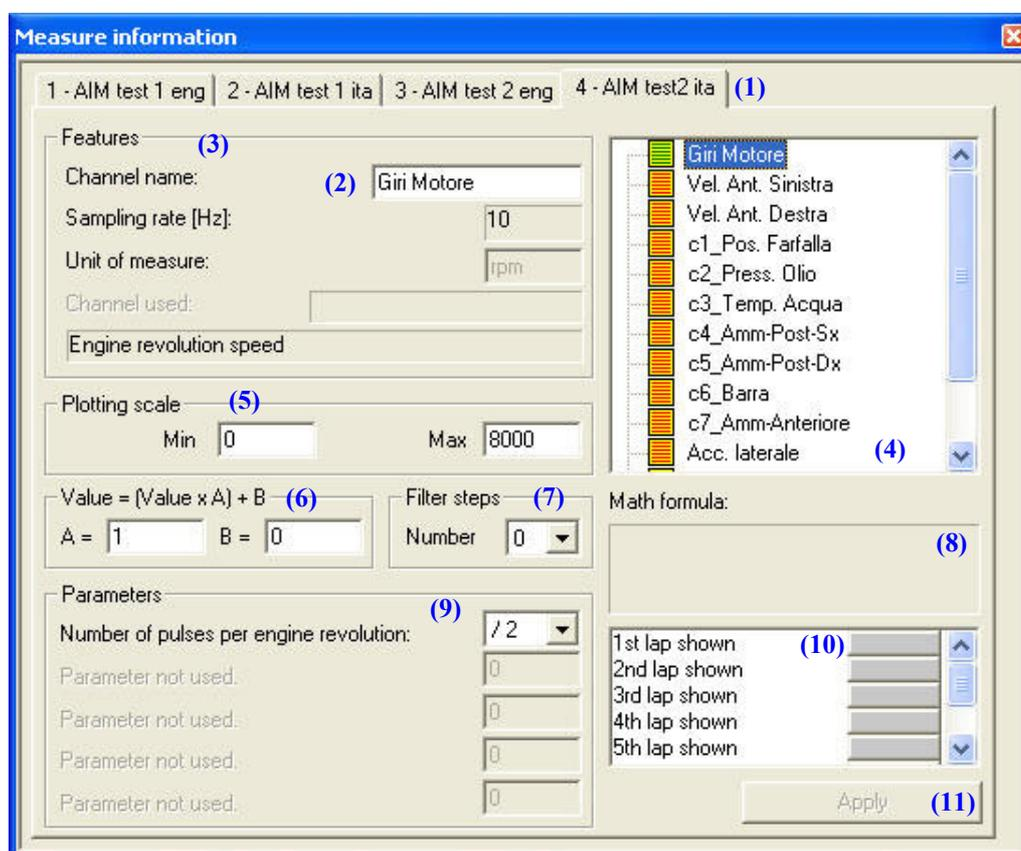

Fig. 4.8– *Measure information* window
The layout of the view for the *Measure Information* window is shown in Figure 4.8.
The plotting scale toolbar, shown in Figure 4.8 as (5), is used to modify the vertical scale of a graph. If you wish to modify the scale, please enter the desired number in the proper box: please, enter the new scale’s minimum value inside the “Min” box, while insert the maximum value inside the “Max” box.
To shift and/or amplify a graph, please use the “Value = (Value\*A)+B” option, shown in Figure 4.8 as (6). In this math formula, A represents the “amplify factor”, while B represents the “shift factor”. These two values are set, as a default, to 1 (amplify factor) and 0 (shift factor).
When sampled data are very noisy, for example because of the sensor's cable has been installed near sources of electrical interference, and you wish to analyze them, it is suggested to use the "Filter" function, shown in Figure 4.8 as (7).